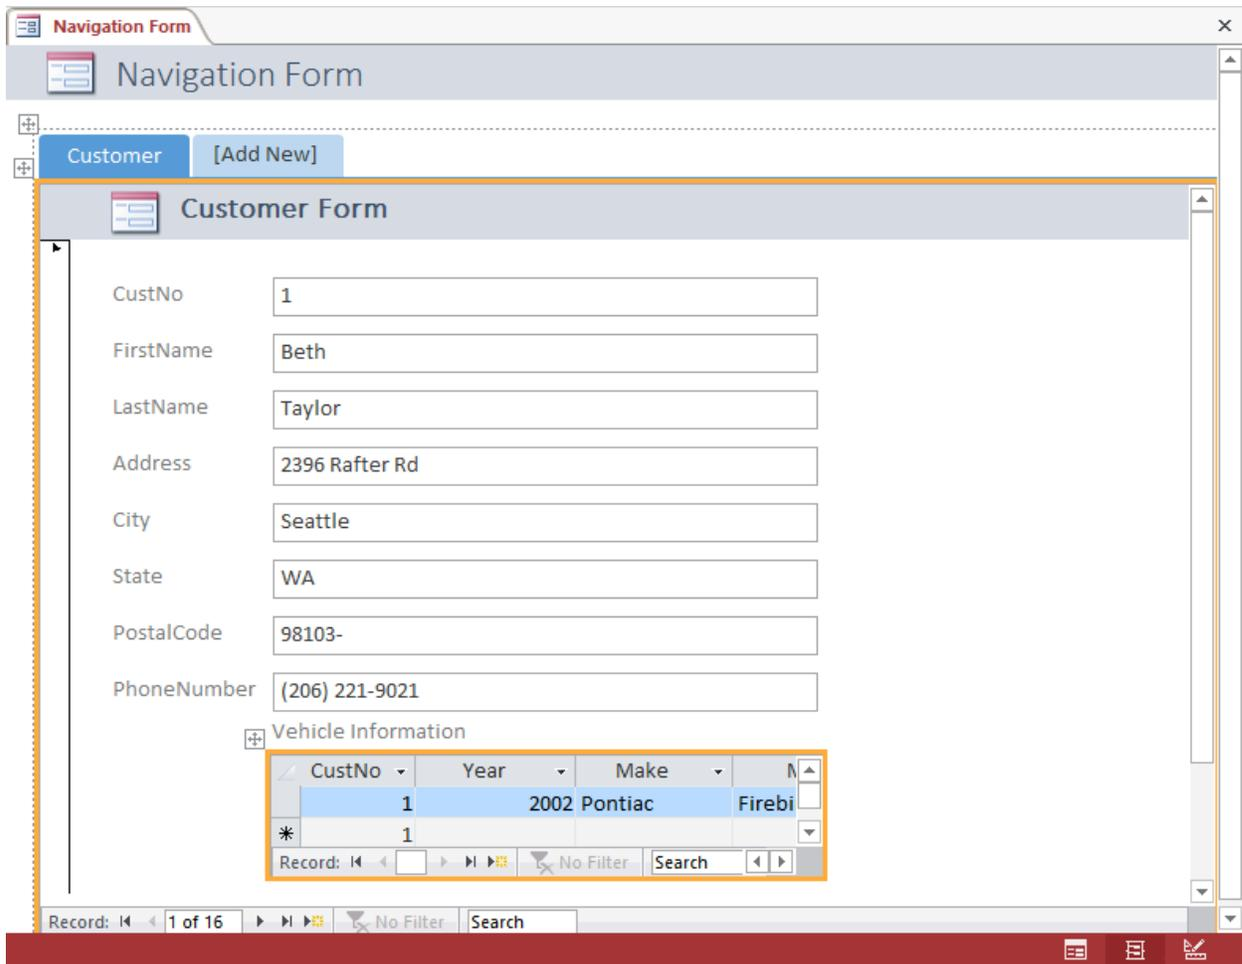

Figure 16: Layout View with Customer Form in the First Tab
3. Use the Customer Form in the Object Pane of the First Tab: Dragging and dropping objects from the Navigation pane is a simple way to specify the object pane of a tab. With the navigation form in layout view, drag the *Customer* form from the object pane and drop it on the tab. The *Customer* form then displays in layout view (Figure 16). Note that a second tab has been automatically added.